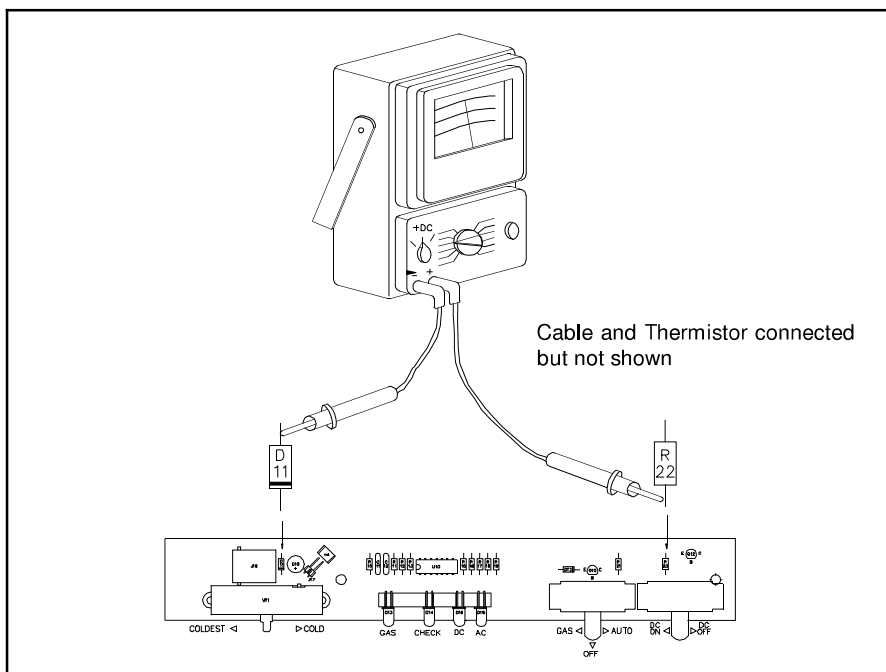

Figure 11.41 Control Voltage Check
14. Set the volt-ohm-meter to measure + 12 volts DC and check for 10 volts at R22 and D11 (R23 and D11 for 2-Way models) as shown in Figure 11.41.